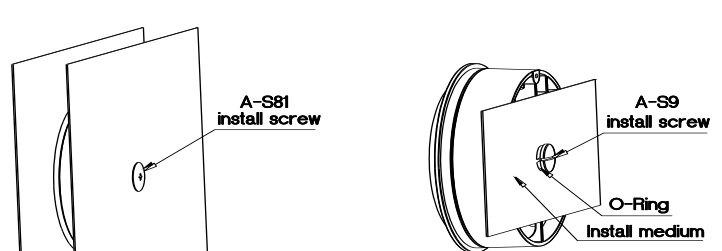

Figure 5
4. Other installation method, as shown in Figure 5 below, screw the A-S9 into the pressure port on the bottom of the gage. Accessory A-S9 needs to be ordered separately.